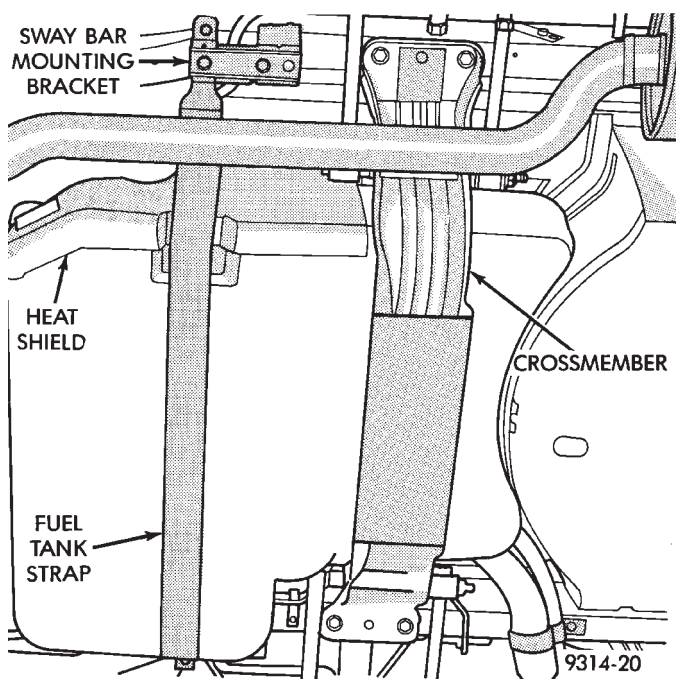

Fig. 3 Crossmember To Frame Rail Attaching Bolts
(1) Install the crossmember and lateral links back into vehicle as an assembly.
(2) Position crossmember on frame rails and install the 4 crossmember to frame rail attaching bolts (Fig. 3). Torque the crossmember to frame rail attaching bolts to 95 N•m (70 ft. lbs.).